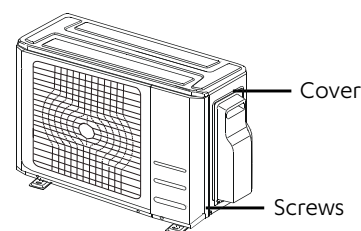

Fig. 8.1
2. Remove the electric cover of the outdoor unit. If there is no cover on the outdoor unit, disassemble the bolts from the maintenance board and remove the protection board. (See fig 8.1)